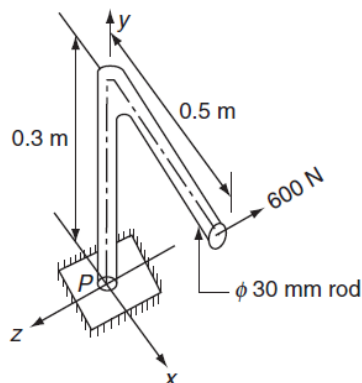

Figure 30 Question 45.
- 45.** A machine frame shown in Figure 30 is subjected to a horizontal force of 600 N parallel to the z-direction.